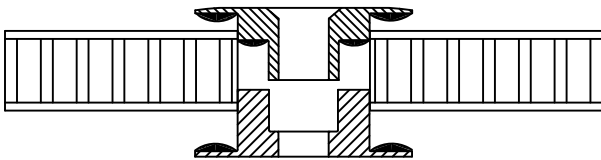

FIGURE 2
- E. Assemble the inserts to the panel so the two insert parts are aligned with each other to match the lead-in of the insert. See figure 2.